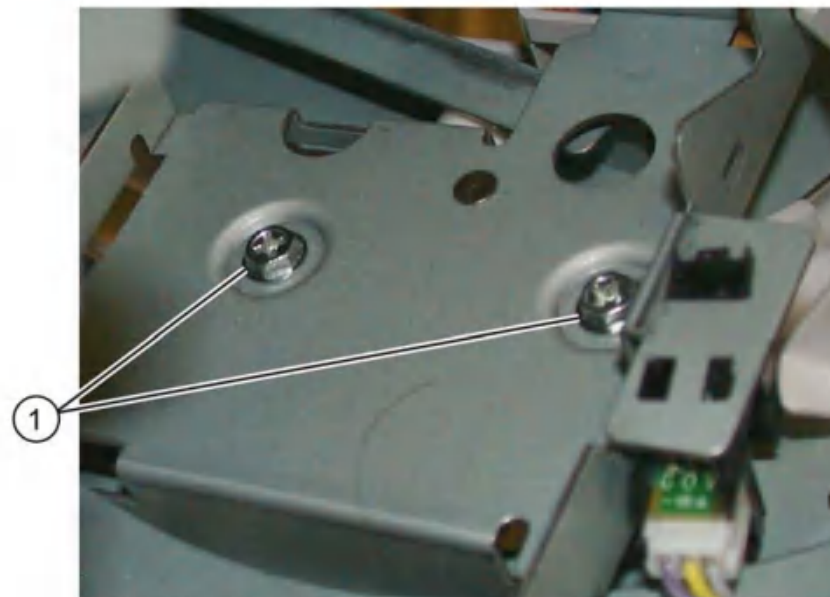

Figure 1 Screw removal
2. Remove two screws (1), Figure 1.